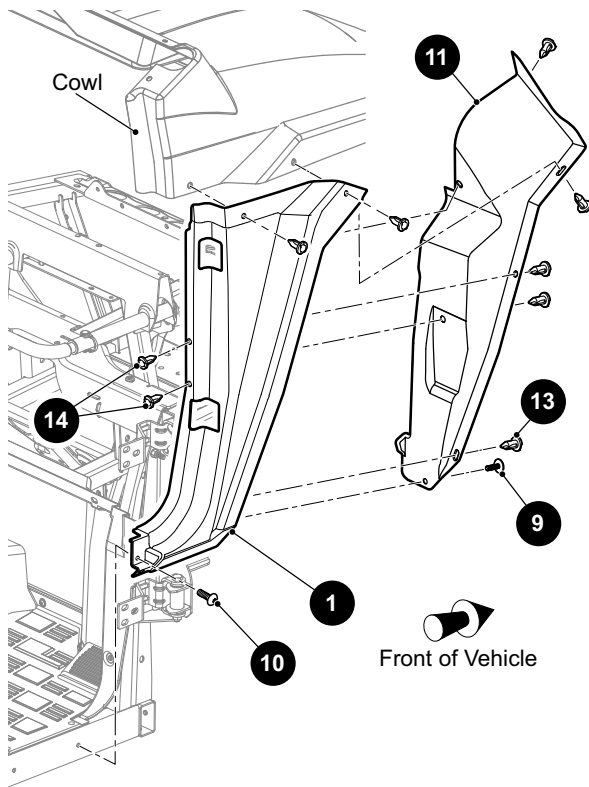

Fig. 7 Quarter Panel and Front Fender Liner
3. Remove the plastic rivets (13) and screw (9) that secure the front fender liner (11) to the quarter panel (1) (See Fig. 7). Remove the front fender liner.
4. Remove the plastic rivets (14) and screws (10) that secure the quarter panel to the frame. Remove the quarter panel.